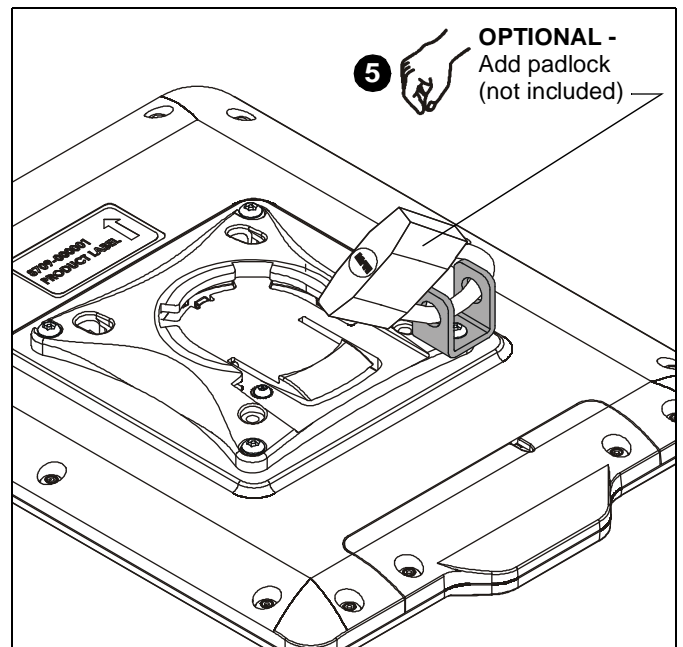

Figure 6
5. **OPTIONAL:** Add padlock (not included) to optional lockout bracket. (See Figure 6)